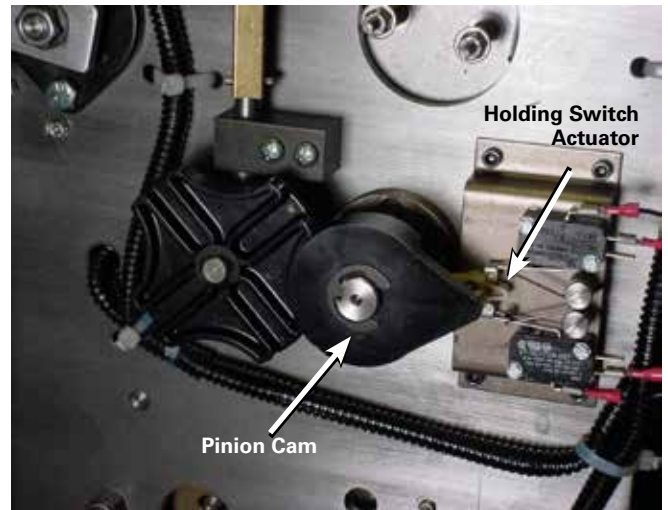

Figure 127. Neutral position for position indicator pinion cam and holding switch.
- C. The pinion cam is pointing to the right over the holding switch actuator. See Figure 127.